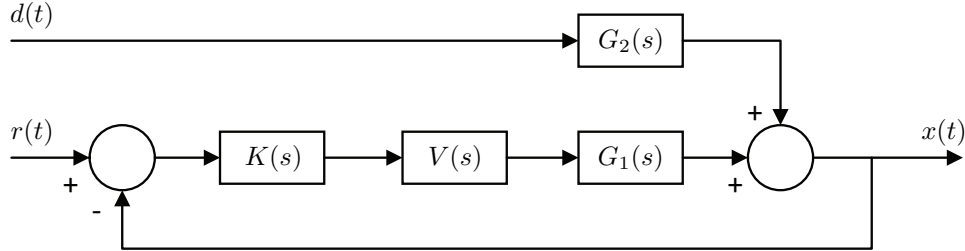

Figure 4: Closed-loop control scheme considering unmodeled dynamics
The effect of unmodeled dynamics is studied in this section. To this purpose, suppose that the valve actuator is not perfect, and hence the actual (linearized) system is better modeled as depicted in Fig. 4, where
- 6.1. (L) Using the `rlocus` command, plot the loci of the closed-loop poles of $G_{clr}(s)$ considering the control-scheme shown in Fig. 4 with the integral control law (7) for positive gains $K_I > 0$. Discuss the impact of the unmodeled dynamics on the stability of the system.
- (a) Start by computing the closed-loop transfer function $G_{clr}(s)$ corresponding to the control scheme depicted in Fig. 4 with integral controller (7).
- 6.3. (L) Illustrate the results of this section with simulations for $r(t) = u(t)$ and $d(t)$ identical to zero for all time, i.e., simulate and plot the response of the system for three different gains such that the system is stable, marginally stable, and unstable, respectively.
where $K_{PI} > 0$ is a gain and $-z$, $z > 0$, corresponds to the zero introduced by the PI controller. The closed-loop control scheme depicted in Fig. 4 is considered, assuming $d(t) = 0$.
- (b) Compute the closed-loop transfer function $G_{clr}(s)$ corresponding to the control scheme depicted in Fig. 4 and the PI controller (8).